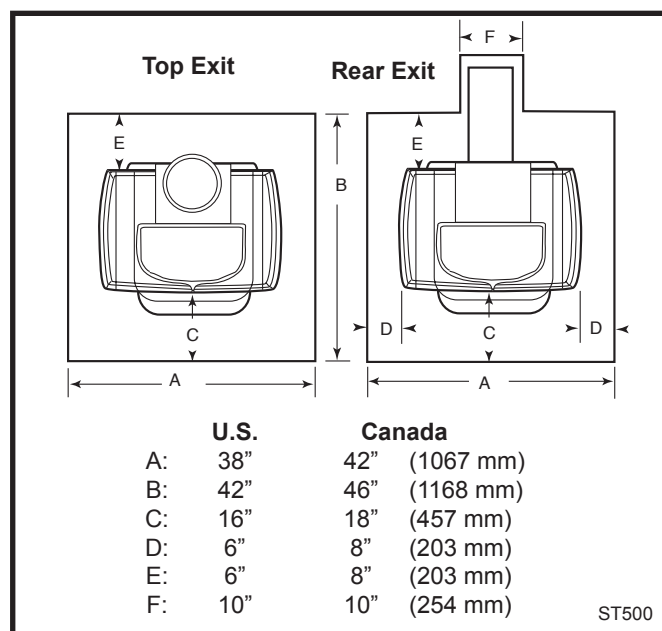

Fig. 11 Required floor protector dimensions.
U.S. installations the floor protector is required under the stove and must extend at least 16" from the front of the stove ("C", Fig. 11), and at least 6" from the sides and rear ("D" and "E", Fig. 11). It must also extend under the chimney connector and 2" to either side ("F", Fig. 11).
In Canada, a noncombustible floor protector is required under the heater also. The floor protector must extend 18" (457 mm) to the front ("C", Fig. 11), and 8" (203 mm) from the sides and rear ("D" and "E", Fig. 11).